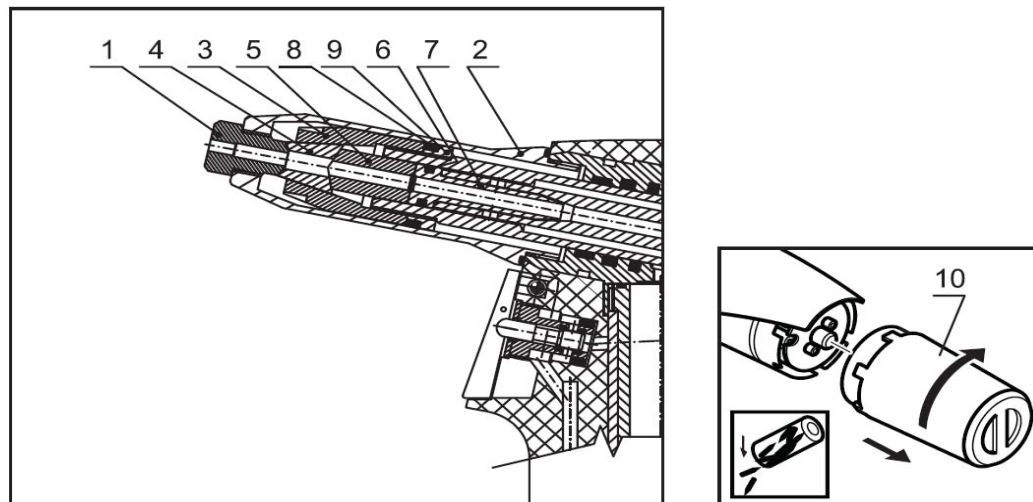
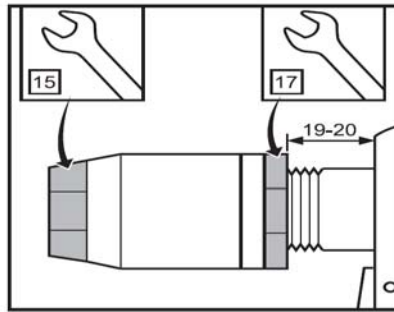

Fig. 2
Fig. 3
Disconnect the tool from the source of compressed air, unscrew the front nozzle /fig.2 - pos.9/ by means of a spanner no. 23, set the spanner no.17(15) onto the clamping sleeve /fig.2 - pos.3/, set the spanner no. 17 on the backnut /fig.2 - pos.6/ and loosen. Unscrew the clamping sleeve, replace the jaws /fig.2 - pos.2/ and conduit-suction complet /fig.2 - pos.8/. All used threads are clockwise. Clean the dismantled parts thoroughly and check them visually, especially the following:
- 1) Jaws /fig.2 – pos.2/ - if worn or damaged, replace it, if dirty, clean it with a wire brush.
- 2) Nose-piece /fig.2 – pos.1/ - for wear of functional surfaces of the taper.
- 3) Conduit-suction complet /fig.2 - pos.8/ - inspect parts of the assembly, jaw pusher /fig.2 - pos.804/, spring /fig.2 - pos.803/, washer of spring /fig.2 - pos.803/, O - ring /fig.2 - pos.802/ and conduit-suction /fig.2 - pos.801/ - if damaged or worn, replace it with a new one.
- 4) Front nozzle /fig.2 - pos.9/ - check for damage of the internal surface ($\varnothing 20$) .
- 5) Scraper ring /fig.2 - pos.5/ - if damaged or worn, replace it with a new one.
Mount the parts (see par. disassembly) in a reverse order. On the outer surface of the jaws /fig.2 – pos.2/ apply a drop of lubricating oil (we recommend hydraulic oil HYSPIIN AWHM 32 CASTROL), apply thin layer of plastic lubricant MOGUL LV 2-3 to the conduit-suction complete /fig.2 – pos.8/. Basic set-up of the jaws is performed as in fig.3.